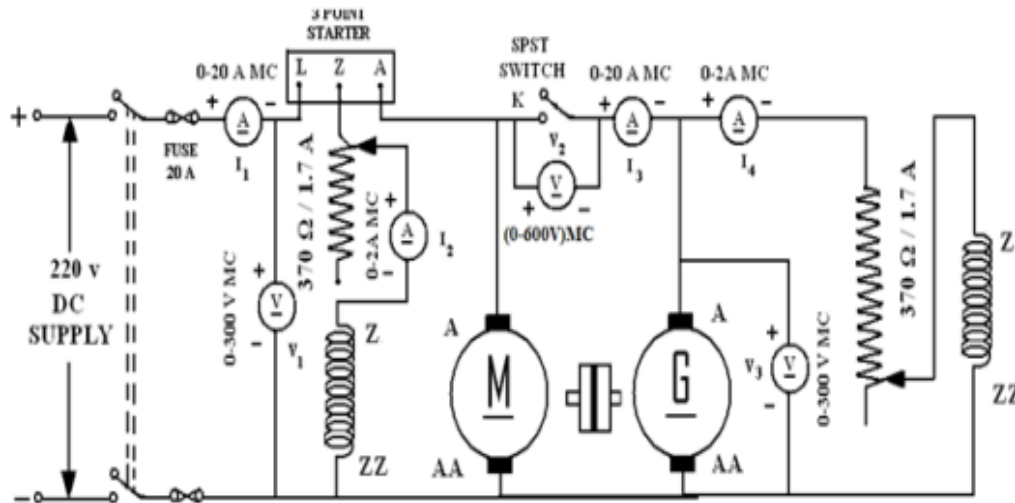

Figure 5 - Identical DC Shunt Machines
1. Calculate the efficiency of two identical dc shunt machines if the armature resistance of each machine is 0.025 ohms, line voltage of 230V and line current excluding both the field currents 2A, motor armature current 10A, field current 1A and 2A figure 5.